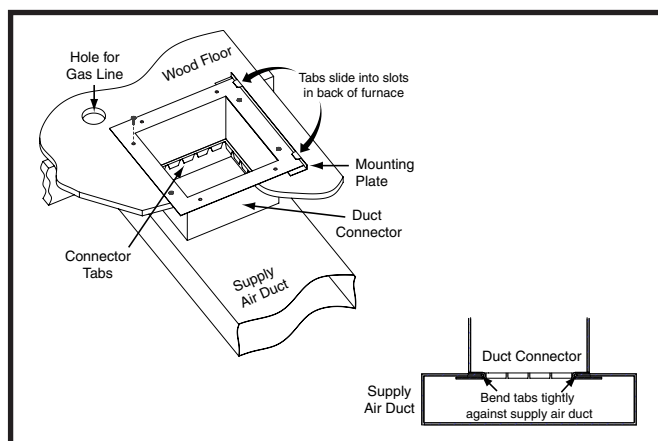

Figure 12. Finger Tabbed Duct Connector
2. Using the centerlines as a starting point, draw the rest of the cut-outs to the dimensions shown in Figure 12.
3. Remove the duct connector and cut out the marked area of the supply air duct 1/16" larger the actual cutout drawn. See Figure 12.
5. Install the mounting plate (Figure 12) under the back side of the duct connector. Align the screw holes in both components.
7. Bend the connector tabs on the bottom of the duct connector upwards and as tight as possible against the supply air duct. See Figure 12.